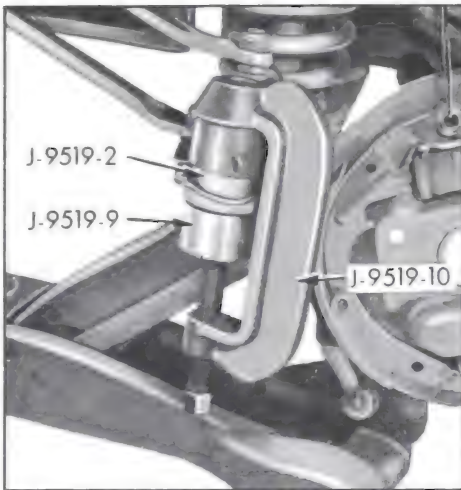

Figure 7-15—Lower Ball Joint Installer Tool in Place
1. Position ball joint minus dust shield in lower control arm and install Tool J-9519 as shown in Figure 7-15. Note that the larger O.D. portion of Tool Detail J-9519-2 is positioned in Detail J-9519-10.